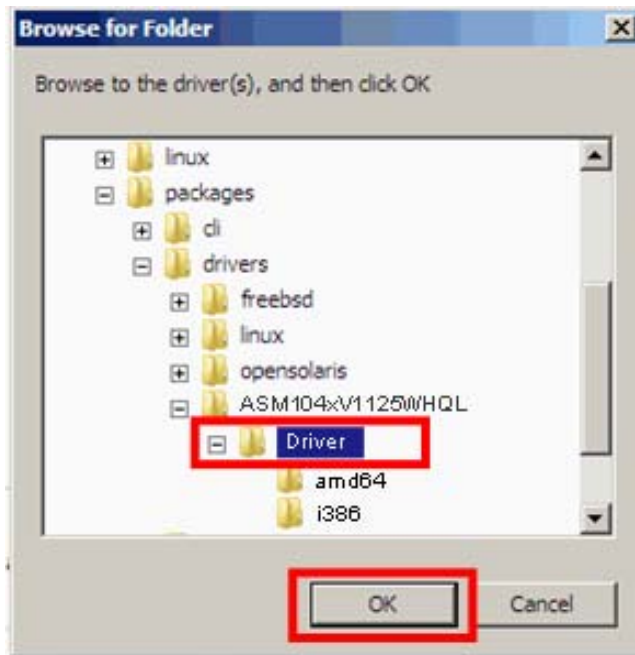

Figure 4-7: Browse for Folder
Step 3: Locate the USB 3.0 driver folder, select **Driver**, and then click **OK** (Figure 4-7).
Step 6: Make sure the **Driver** subfolder inside the USB 3.0 driver folder is selected, and then click **OK** (Figure 4-7).